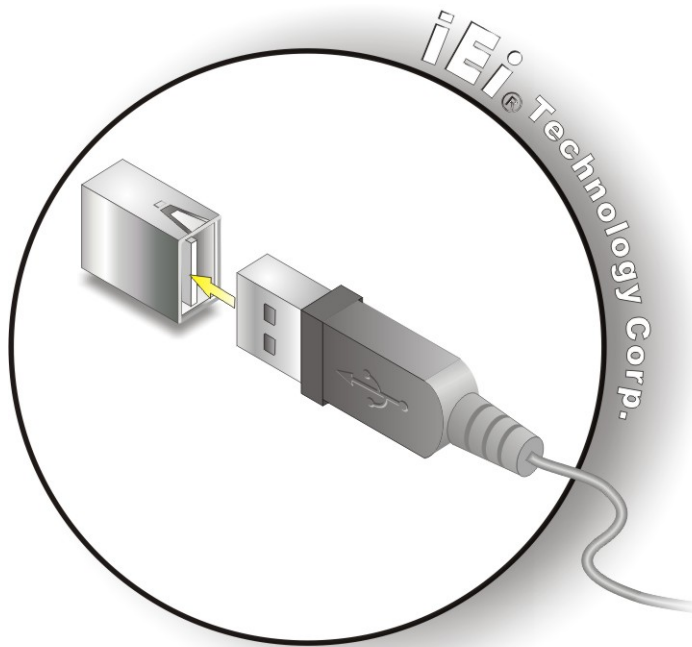

Figure 4-14: USB Device Connection
Step 2: Align the connectors. Align the USB device connector with one of the connectors on the PCIE-Q57A. See Figure 4-14.